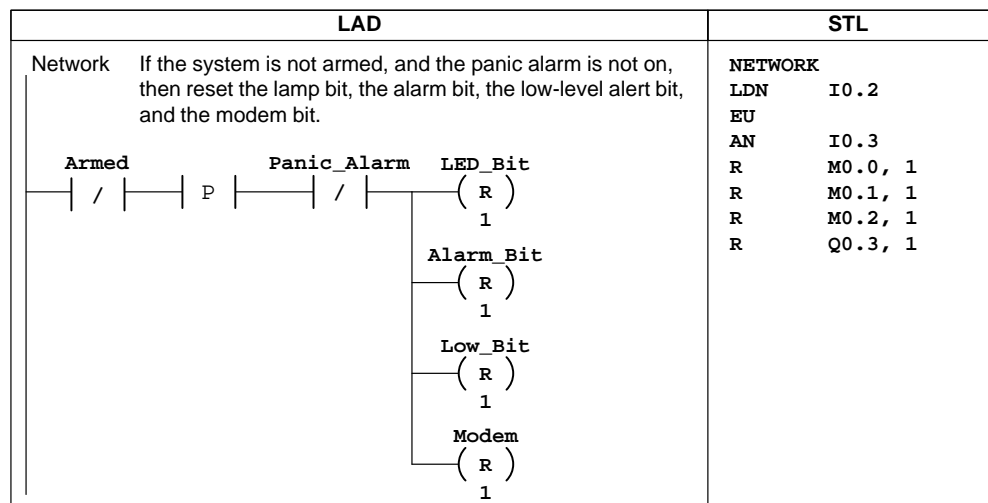

Figure 3-6 Control Logic for Disarming the Security System
- As shown in Figure 3-6, disarming the security system stops the notification and alarm sequence.